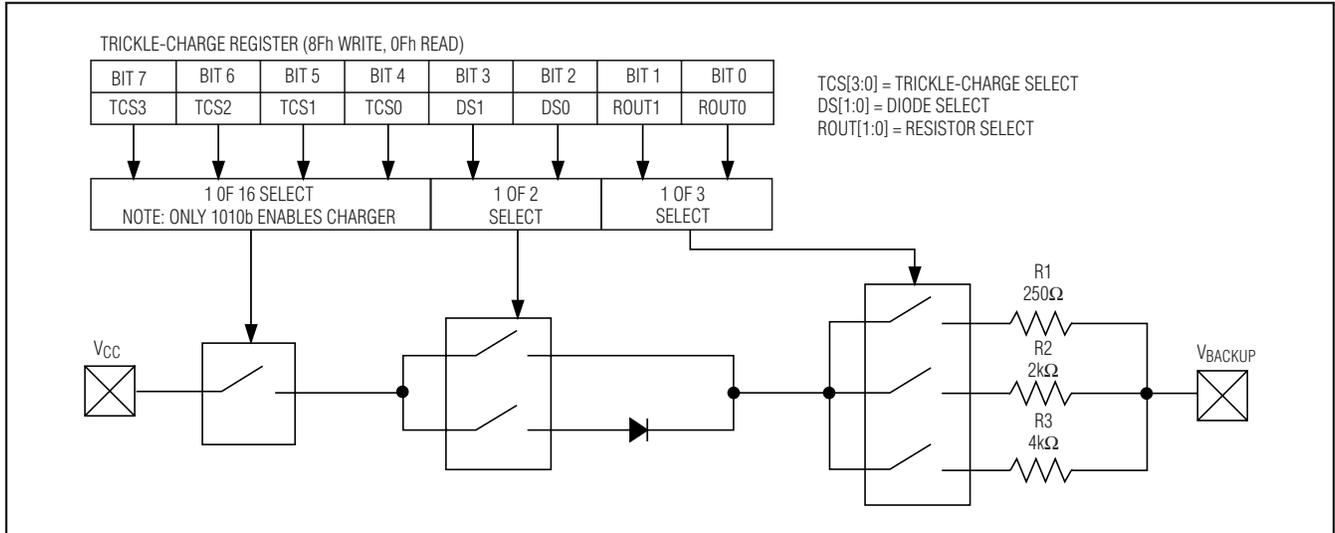

Figure 8. DS1390-DS1394 Programmable Trickle Charger
The simplified schematic in Figure 8 shows the basic components of the trickle charger. The trickle-charge select (TCS) bits (bits 4 to 7) control the selection of the trickle charger. To prevent accidental enabling, only a pattern on 1010 enables the trickle charger. All other patterns disable the trickle charger. The trickle charger is disabled when power is first applied. The diode-select (DS) bits (bits 2 and 3) select whether or not a diode is connected between V_{CC} and V_{BACKUP} . If DS is 01, no diode is selected or if DS is 10, a diode is selected. The ROUT bits (bits 0 and 1) select the value of the resistor connected between V_{CC} and V_{BACKUP} . Table 5 shows the resistor selected by the resistor-select (ROUT) bits and the diode selected by the diode-select (DS) bits.